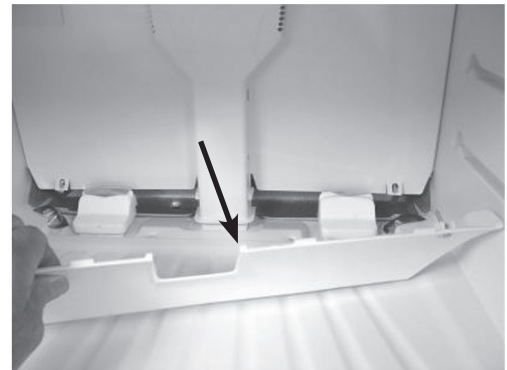

Figure 2
3. Disconnect the green chassis ground wire from the main cover. See figure 2.
4. Remove 2-¼" screws securing the lower cover to the main cover. See figure 2.
5. Remove lower cover. See figure 2.